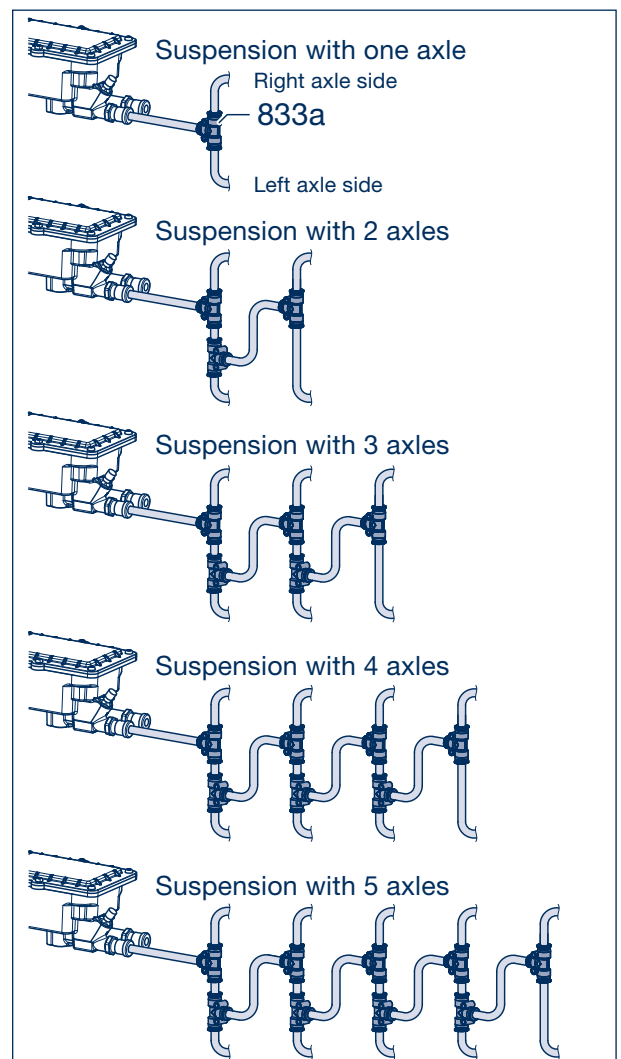

Figure 30
- [2] Insert the compressed air lines ($\varnothing 8 \times 1$ mm) into the connection 1 on the Control Box 141 and connect to the AirSave T-piece on the axle. If the vehicle has other axles, a T-piece must also be integrated into the pneumatic circuit of each one, see Figure 30. No more than 5 axles per Control Box are allowed to be connected. A second Control Box must be installed for 6 axles or more.